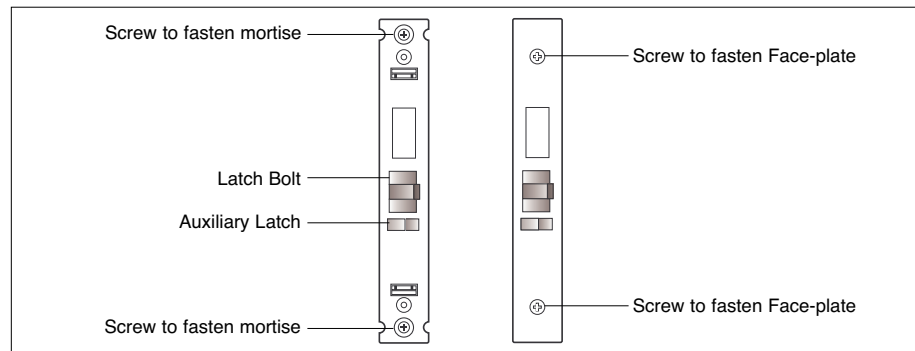

Figure 6
- 3) Place the mortise lock into the door cutout. Make sure that the mortise is positioned with the latch bolt above the auxiliary latch (see Figure 6).
- 4) Fasten the mortise in place using the steel combination screws provided (see Figure 6).